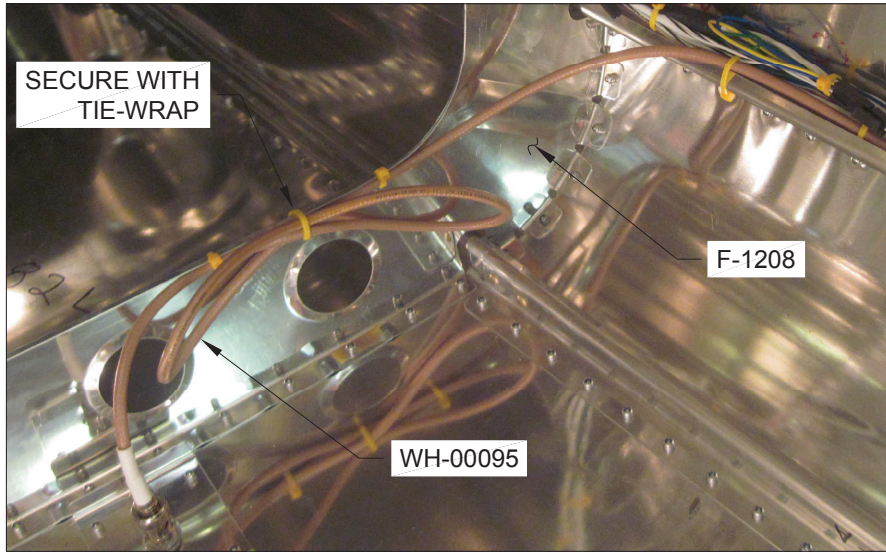

FIGURE 1: COILING EXCESS ANTENNA CABLE
Step 1: Coil the excess WH-00095 ADS-B Antenna Cable and secure the coil to the F-1208 Fuselage Frame with a tie-wrap as shown in Figure 1.